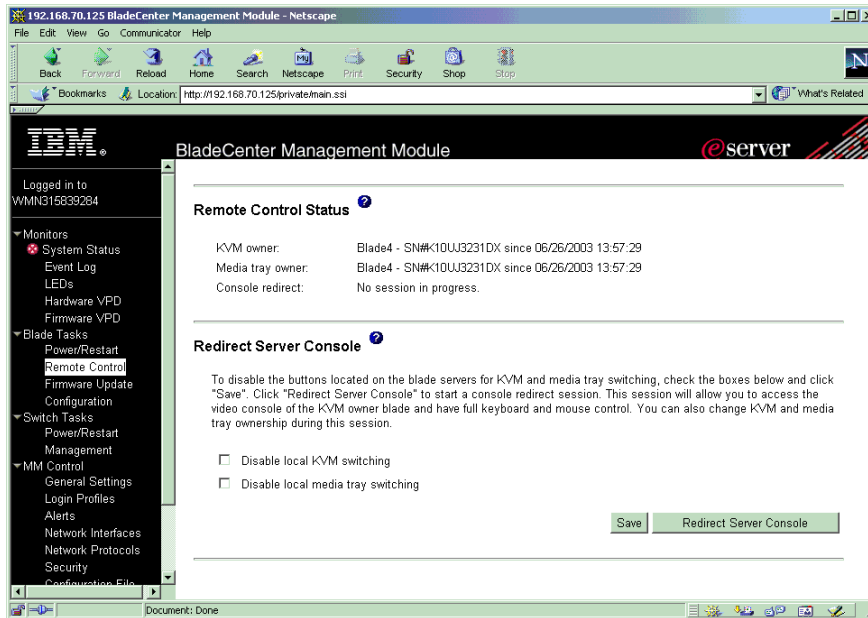

Figure 16. Remote Control screen
- a. Click **Remote Control** on the left hand panel, under Blade Tasks. Then click Redirect Server Console, shown in Figure 16. This will launch a new browser window for the remote console.